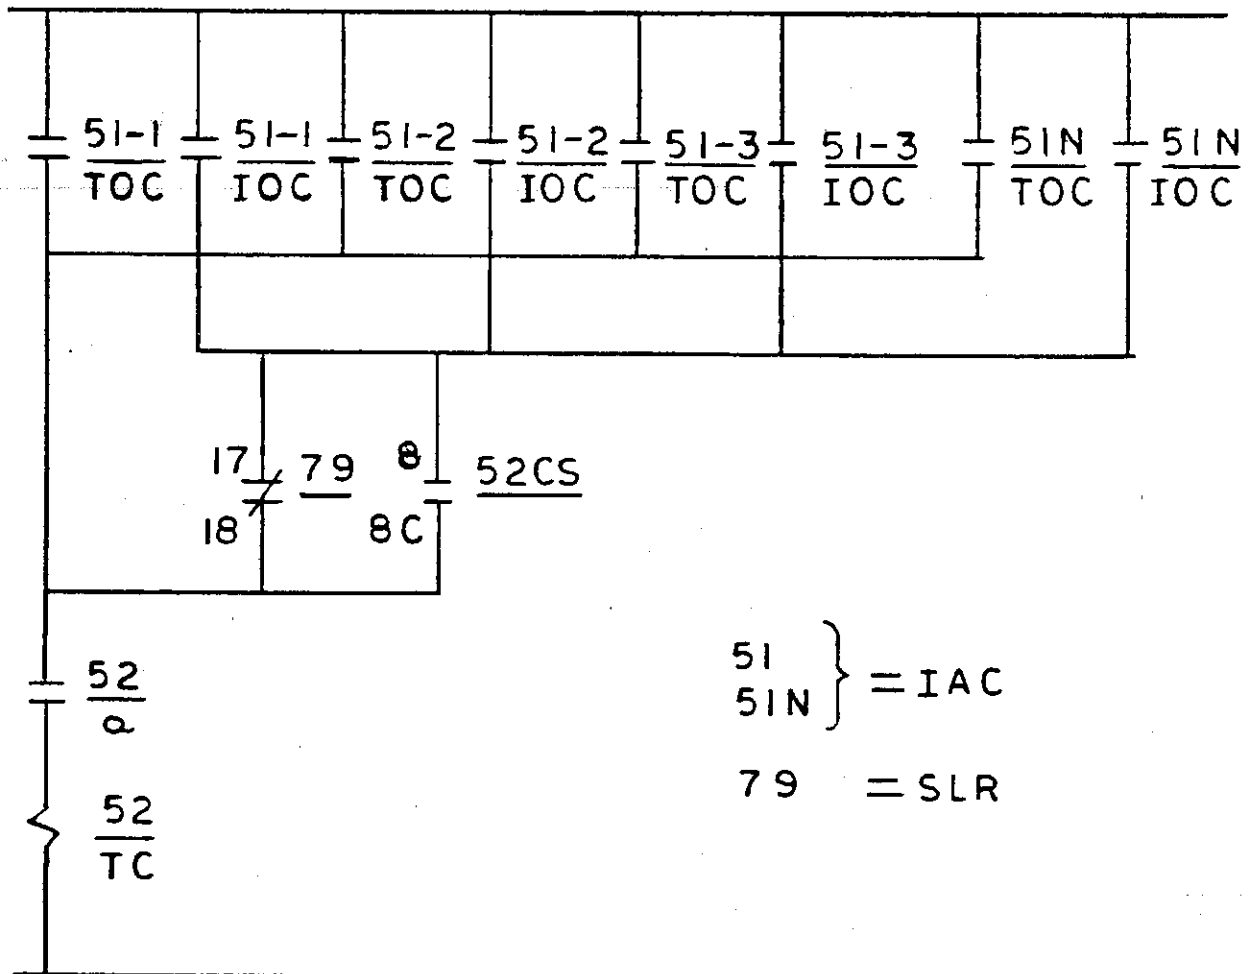

Fig. 3 (0285A6294-0) Use of Contact to Block Instantaneous Trip Circuit Prior to First Reclosure
- Fig. 3 Use of Contact to Block Instantaneous Trip Circuit